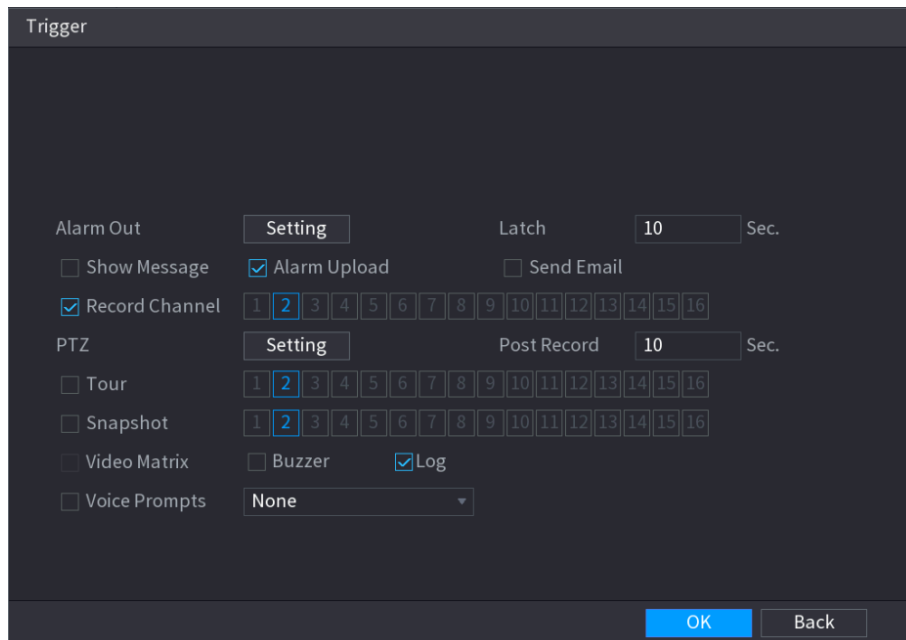

Figure 5-149
- Click  to set the alarm linkage. See Figure 5-149. For details, see Table 5-49. After setting is completed, click **OK**.